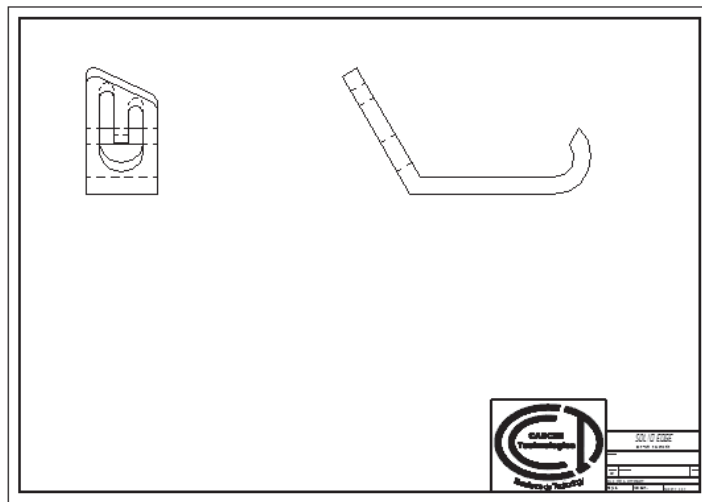

Figure 11-38 Drawing views after reducing the scale
9. You can move the views on the sheet by dragging them. Arrange the views, as shown in Figure 11-38.